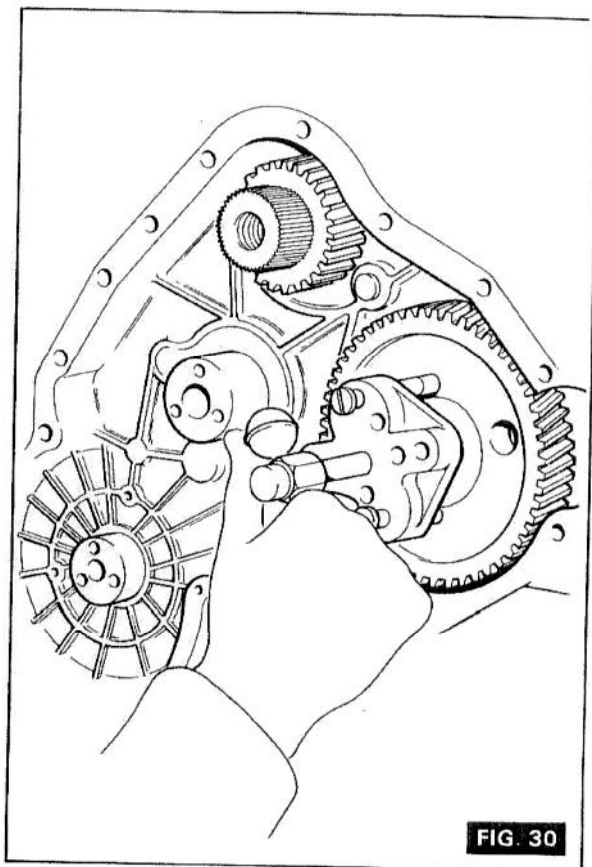

FIG. 30
2. Using a suitable extractor, remove the camshaft gear. (Ref to Fig. 30).